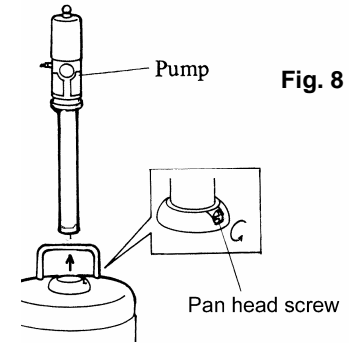

Fig. 8
- 3) Unscrew the pan-head screw of the body supporter that fixes the pump. Pull out the pump upward, and the pump can be removed from the cabinet.(Fig.8)